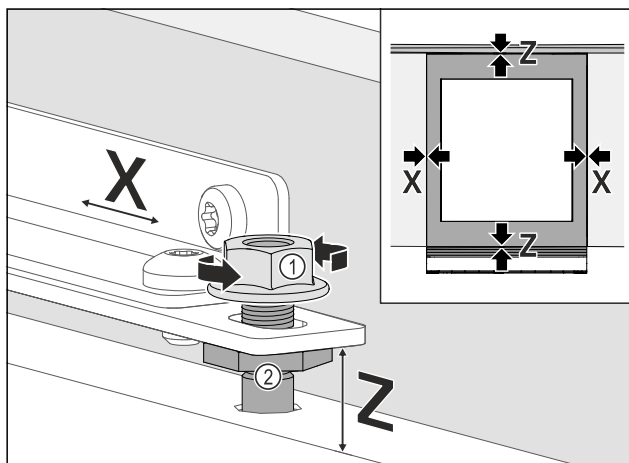

Fig. 77
- Align the unit door laterally: Loosen the lock nut Fig. 77 (1), move the unit door in X direction.
- Tighten the lock nuts Fig. 77 (1).
- Align the height Z and lateral inclination of the unit door: Set the adjustment bolt Fig. 77 (2).